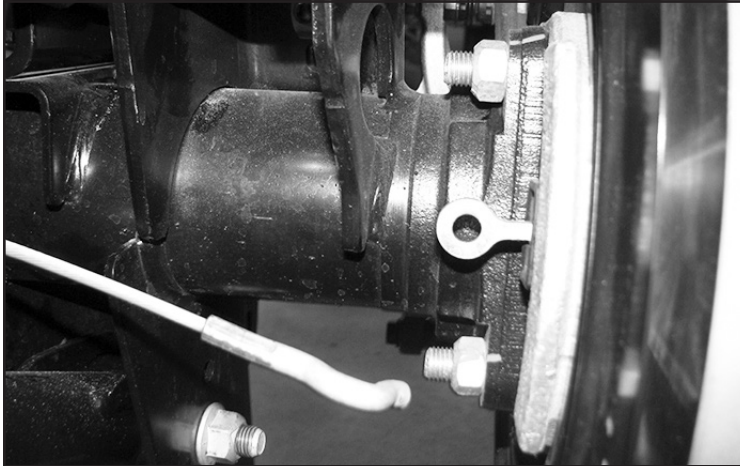
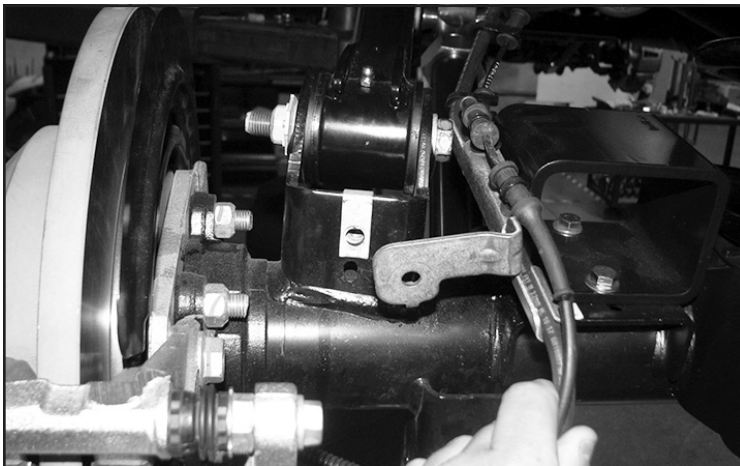

FIGURE 25 - STEP 26
FIGURE 26 - STEP 26
26. Disconnect the e-brake cables behind the rotor. **SEE FIGURE 25.** Next, Disconnect the brake line from the axle link pocket. **SEE FIGURE 26.**